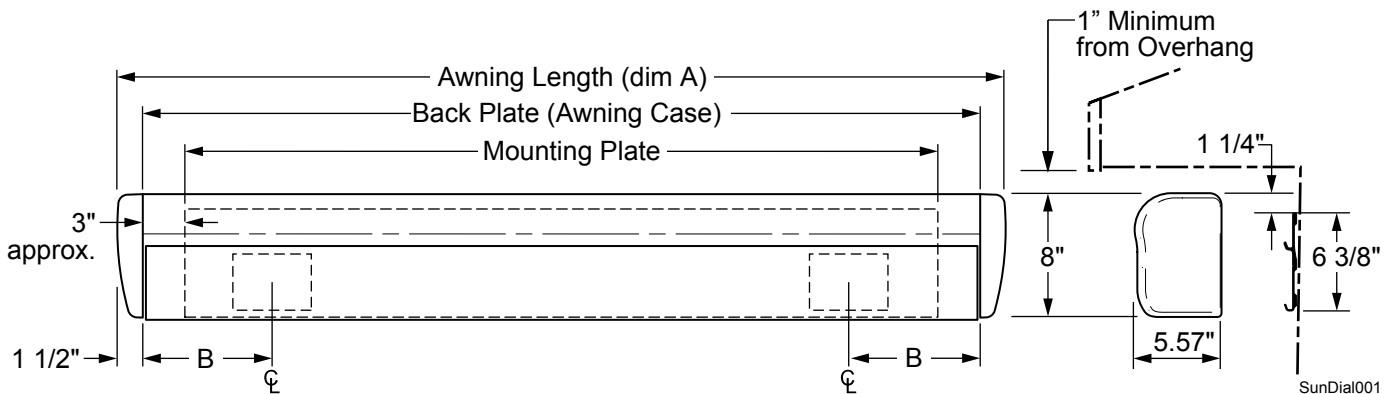

Figure 1. General Description - Sundial Patio Awning.
- General profile dimensions are shown in Figure 1;
- The mounting plate is 9" shorter than the awning; 6" shorter than the back plate. (Reference Figure 1)